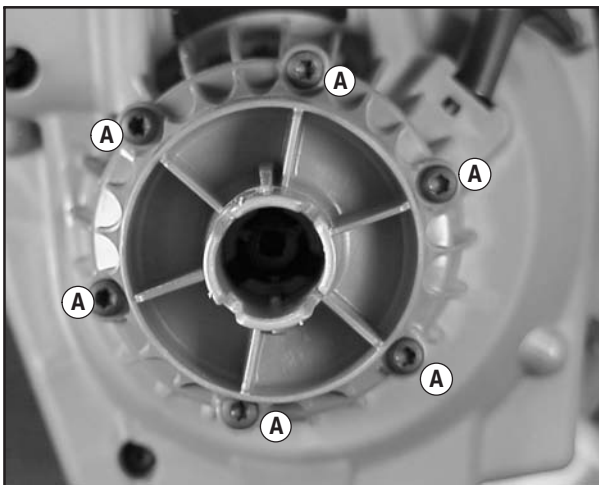

Fig. 4
1. Remove 6 screws (A) and clutch housing cover, Fig. 4.